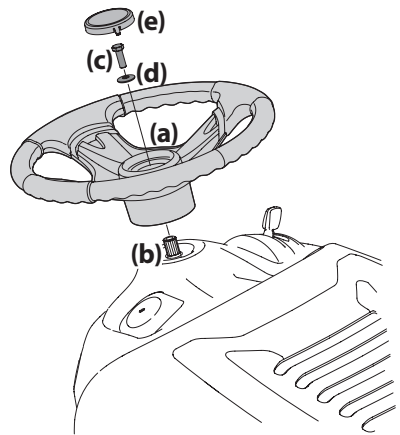

Figure 7
2. With the front wheels of the tractor pointing straight forward, align the steering wheel (a) and place it onto the steering shaft (b). See Figure 7.
3. Secure the steering wheel (a) with the hex bolt (c) and washer (d) from under the steering wheel cap (e) and torque to 18-22 ft-lbs (24-30 N-m). See Figure 7.
4. Place the steering wheel cap (e) over the center of the steering wheel (a) and push downward until it "clicks" into place. See Figure 7.
NOTE: The hex bolt (c) securing the steering wheel (a) has thread locker applied to it, so if it is removed, it is recommended that the hex bolt (c) be replaced or thread lock re-applied. See Figure 7.